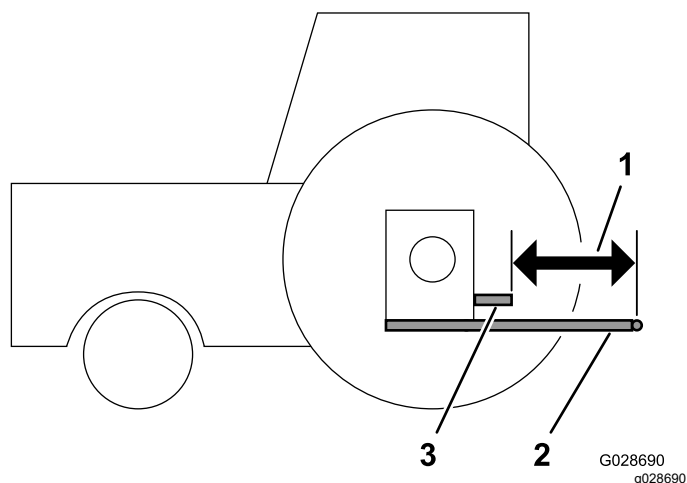

Figure 9
1. Place a straightedge across the ends of the trailing arms to help you determine the distance between them and the end of the PTO output shaft (Figure 9).
the lower trailing arms (Figure 9). Record your measurement here: